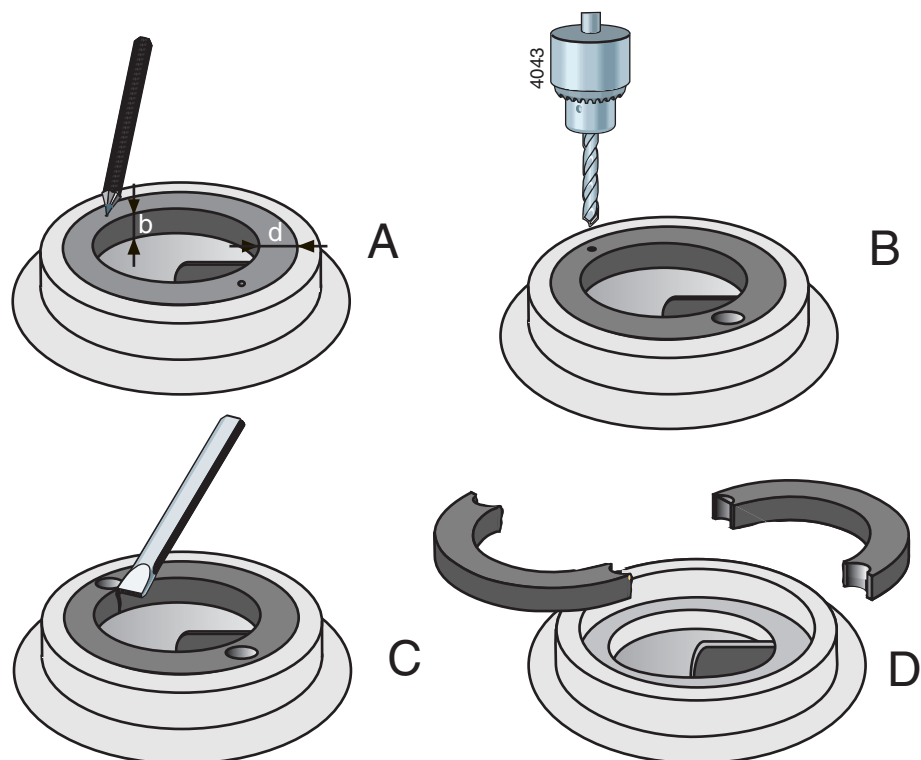

Figure 8: Removal of wear ring.
- 1 Measure the thickness (d) and the width (b) of the ring, see figure 8 A.
- 2 Make a centre hole in the middle of the edge of the ring at two opposite points, see figure 8 B.
- 3 Use a drill with a diameter just a little bit smaller than the thickness (d) of the ring and drill two holes in the ring, see figure 8 C. Don't drill deeper than the width (b) of the ring. Take care not to damage the fitting edge of the pump casing.
- 4 Use a chisel to cut the remaining part of the ring thickness. Now you can remove the ring in two parts from the pump casing, see figure 8 D.